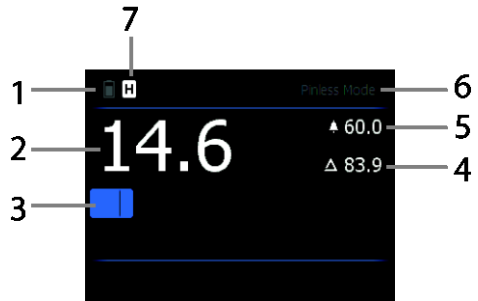

Fig. 5-1 Moisture Mode Display
Moisture readings are shown on the display (digitally and with bar graph). See Fig. 5-1. Pinless measurement readings are 'relative' scaled (0~100). Pin-based readings are represented in terms of %MC (moisture content); additional information is provided in Section 5.2.5 *External Pin Probe Moisture Measurements* and in the specifications.
Moisture readings are displayed as shown in the example for Fig. 5-1.
5. The moisture reading is displayed on the main display (%) and as a bargraph, similar to the display example shown in Fig. 5-1.
3. The relative moisture reading is displayed on the main display, digitally and as a color-coded bargraph (blue when not in an alarm state; red when in an alarm state). Refer to Fig. 5-1.
2. When the SET REFERENCE function is selected the Reference value and delta symbol are shown on the right side of the display, refer to example screen in Fig. 5-1.
6. When the High Alarm is set ON, the main display will show the alarm bell icon and the High Alarm value. Refer to the example screen in Fig. 5-1.